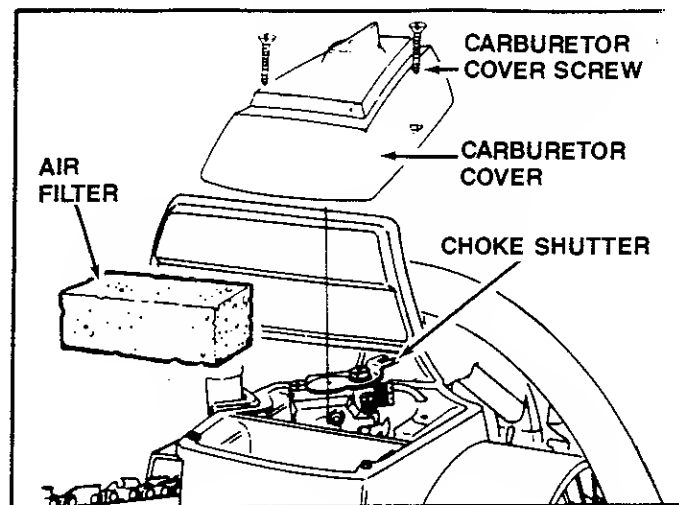

Figure 45
- Remove the two carburetor cover screws and carburetor cover. Figure 45.
2. Remove the carburetor cover screws and carburetor cover. Figure 45.
10. Check the choke shutter to be sure it is closed. Figure 45.